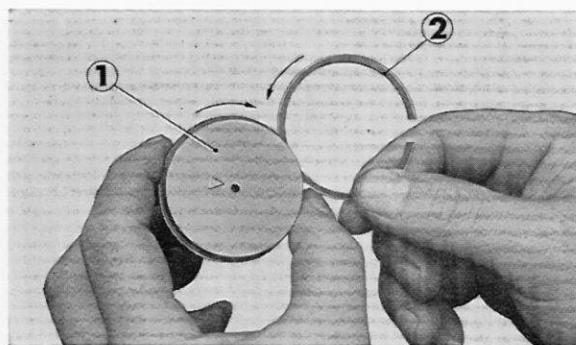

Fig. 2-31 ① Piston ② Piston ring
- When assembling new rings, roll the rings in their respective piston grooves to check the fit. (Fig. 2-31)